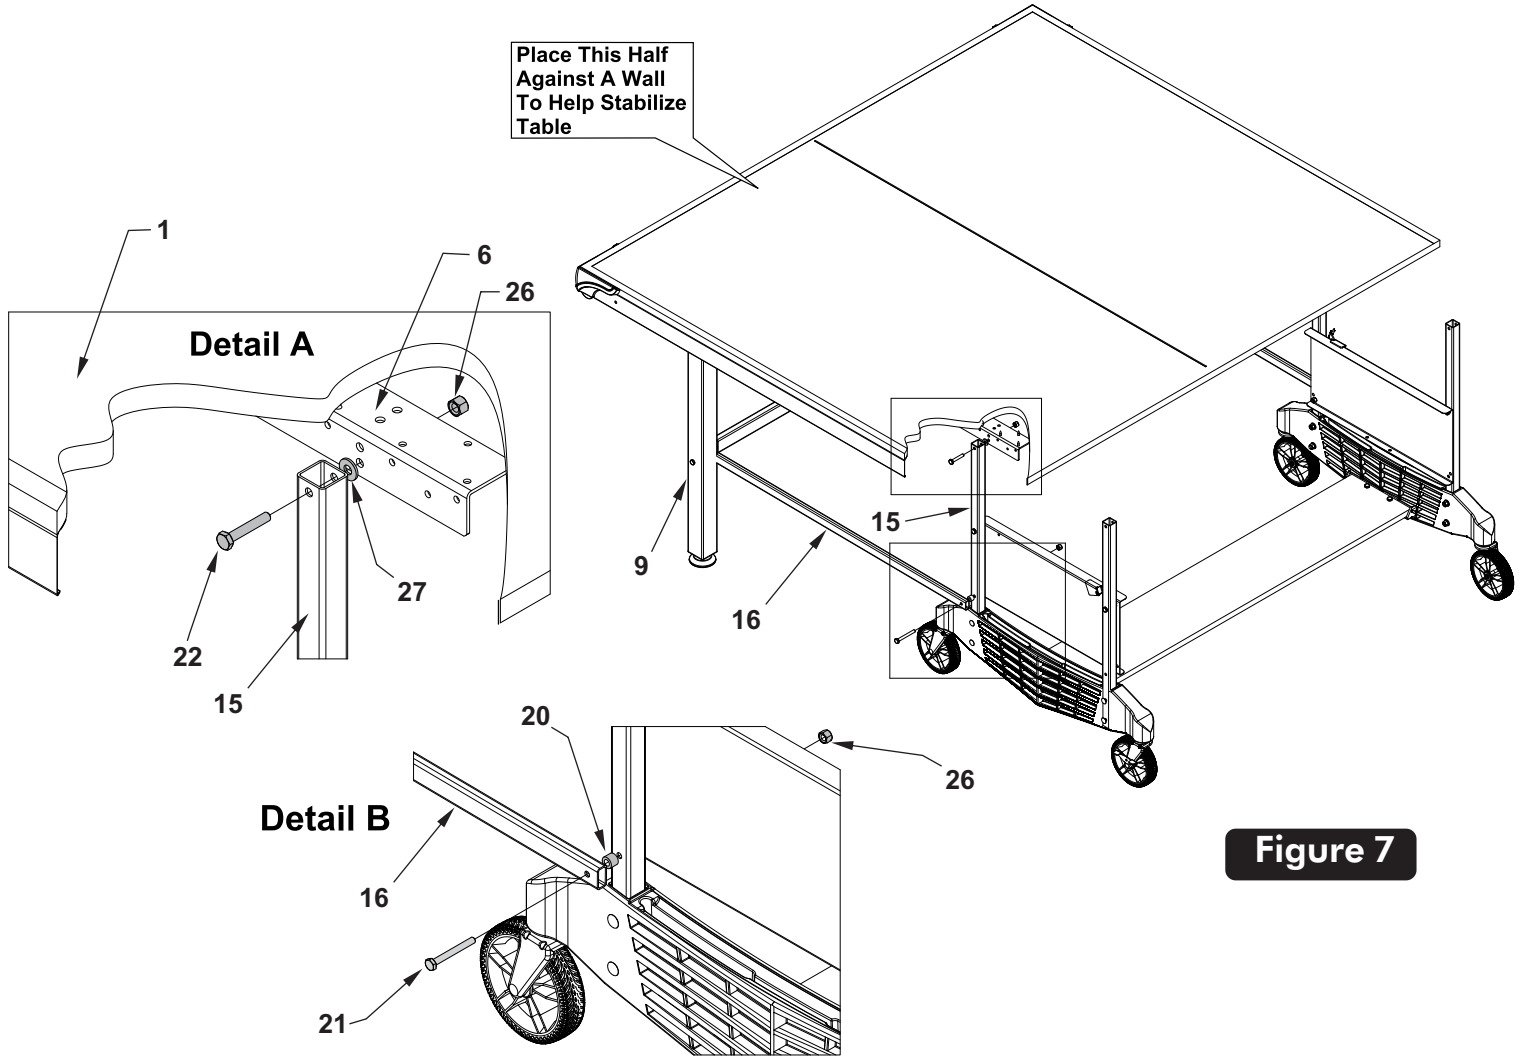

Figure 7
- Make sure the leg assembly #9 on the first table half is open and linkages #16 are pointing toward middle of table. See Figure 7. With one adult person on each side of the table, lift and set table half on its legs.
While holding table half up, pull the base assembly under this half until the hole in Upright Tube #15 is aligned with **lower middle** hole in the Mounting Bracket #6 on the bottom of table half. See Figure 7 and Detail A. Attach Upright Tubes #15 to Mounting Brackets #6 with Hex Bolts #22, Washers #27 and Locknuts #26 that you placed on floor in step 13.
- Remove bottom bolts #21 from bottom holes that attach name panels to Upright Tubes. Attach end of Linkage #16 to **outside** of Upright Tube #15 with bolt #21 (that you just removed), spacer #20 and Locknut #26. Note spacer #20 goes between linkage #16 and upright tube #15. See Figure 7 and Detail B. Tighten all nuts snug, but do not overtighten. Joints must pivot.